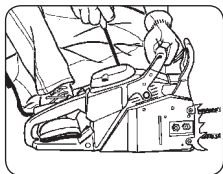

Fig. 9F
- Place saw on a firm, flat surface. Hold saw firmly as shown. Pull starter rapidly 4 times. Beware of moving chain! (Fig. 9F)